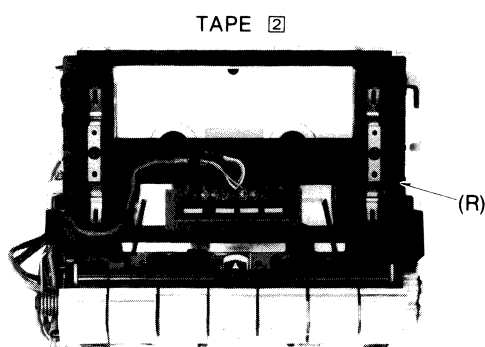

Fig. 8
Ⓑ Tape speed [TAPE ①, TAPE ②] Condition: • Playback mode • Dubbing speed switch ... Normal/high Equipment: • Digital electronic counter or frequency counter • Test tape ... QZZCWAT	Normal speed adjustment TAPE ① 1. Make connections as shown in fig. 8. 2. Set the dubbing speed switch to Normal. 3. Play the test tape (QZZCWAT) with the TAPE ① head, and measure the playback signal frequency. If the playback signal frequency does not conform to the standard value, adjust the normal speed adjustment VR for the TAPE ① head (See fig. 1). <div style="border: 1px solid black; padding: 5px; text-align: center;"> Standard value: TAPE ① (Playback deck: Normal speed) 3010 ± 45 Hz </div> TAPE ② 4. Play the test tape (QZZCWAT) with the TAPE ② head, and measure the playback signal frequency, and then adjust the normal speed adjustment VR for the TAPE ② head so that the playback signal frequency is 15 Hz lower than the output signal frequency after adjustment of TAPE ①. High speed adjustment Note: Perform high speed adjustment about 10 seconds after the start of motor rotation. 1. Make connections as shown in fig. 8. 2. Set the dubbing/mixing switch to off, and set the dubbing speed switch to high. Short between TP7 and TP8. 3. Play the test tape (QZZCWAT) with the TAPE ① and measure the playback signal frequency. If the playback signal frequency does not conform to the standard value, adjust the high speed adjustment VR for the TAPE ① head (See fig. 1). <div style="border: 1px solid black; padding: 5px; text-align: center;"> Standard value: TAPE ① (Playback deck: Normal speed) 6020 ± 90 Hz </div> 4. Play the test tape (QZZCWAT) with the TAPE ② head, and measure the playback signal frequency, and then adjust the high speed adjustment VR for the TAPE ② head so that the playback signal frequency is 30 Hz lower than the output signal frequency after adjustment of TAPE ①. 5. After high speed adjustment, remove the short between TP7 and TP8. Tape speed fluctuation TAPE ①, TAPE ② Make measurements in same manner as above (beginning, middle and end of tape), and determine the difference between maximum and minimum values and calculate as follows: $\text{Tape speed fluctuation (Normal speed)} = \frac{f_1 - f_2}{3,000} \times 100 (\%)$ $f_1 = \text{maximum value, } f_2 = \text{minimum value}$ $\text{Tape speed fluctuation (High speed)} = \frac{f_1 - f_2}{6,000} \times 100 (\%)$ $f_1 = \text{maximum value, } f_2 = \text{minimum value}$ <div style="border: 1px solid black; padding: 5px; text-align: center;"> Standard value: Less than 1% </div> Note: Please use non metal type screwdriver when you adjust tape speed on this unit.